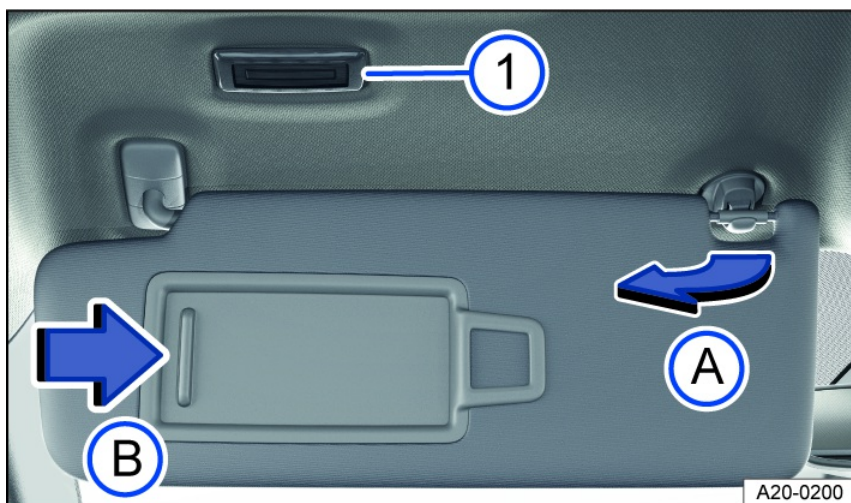

Fig. 109 In the front of the headliner: sun visor.
- Remove from the holder and tilt toward the door *fig. 109*.
When the sun visor is folded down, there is a vanity mirror located behind a cover. The lights *fig. 109* turn on when the cover *fig. 109* slides open.